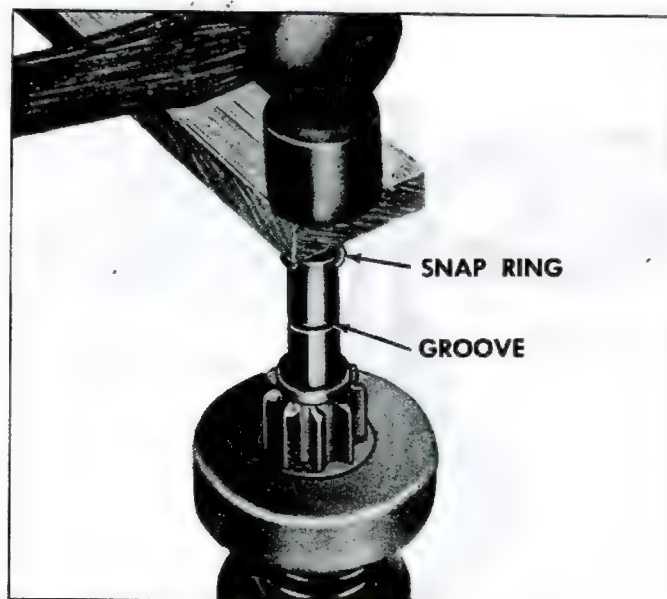

Fig. 9s—Forcing Snap Ring over Shaft
- d. Stand armature on end on wood surface with commutator down. Position snap ring on upper end of shaft and hold in place with a block of wood. Hit wood block a blow with hammer forcing snap ring over end of shaft (fig. 9s). Slide snap ring down into groove.